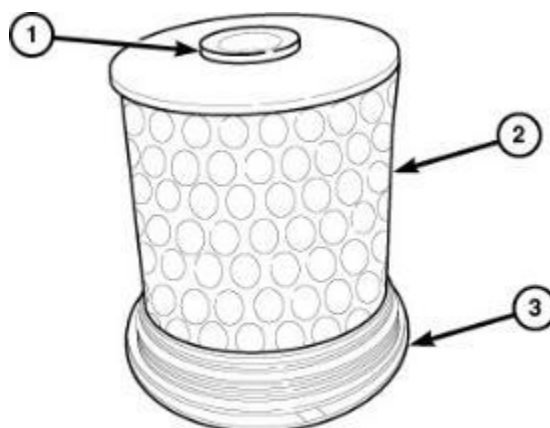

Figure 33 - Filter Seal
69. Position and push down on **NEW** fuel filters (2) to install filter onto the cover (3) (Figure 33).
70. Lubricate the rubber seal (1) with clean diesel fluid (Figure 33).